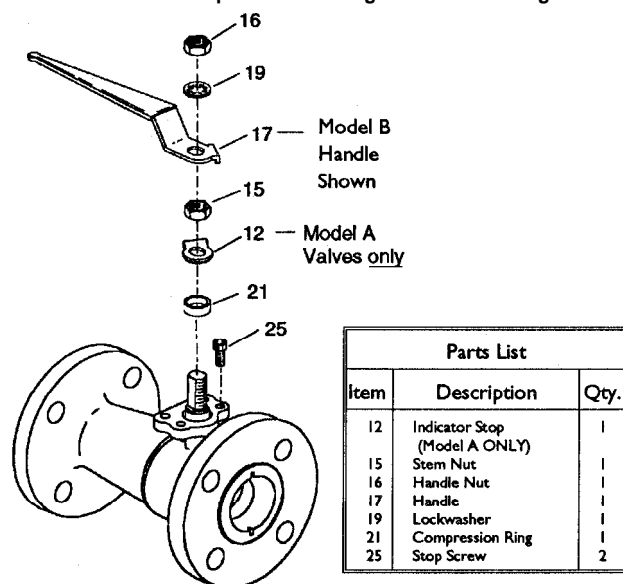

Figure 1
2. Remove the handle nut (16), lockwasher (19), handle (17), stem nut (15), indicator stop (12) (Model A valves only), compression ring (21), and two stop screws (25). Some heat may be required to break the adhesive bond. These parts are no longer needed. See Figure 1.